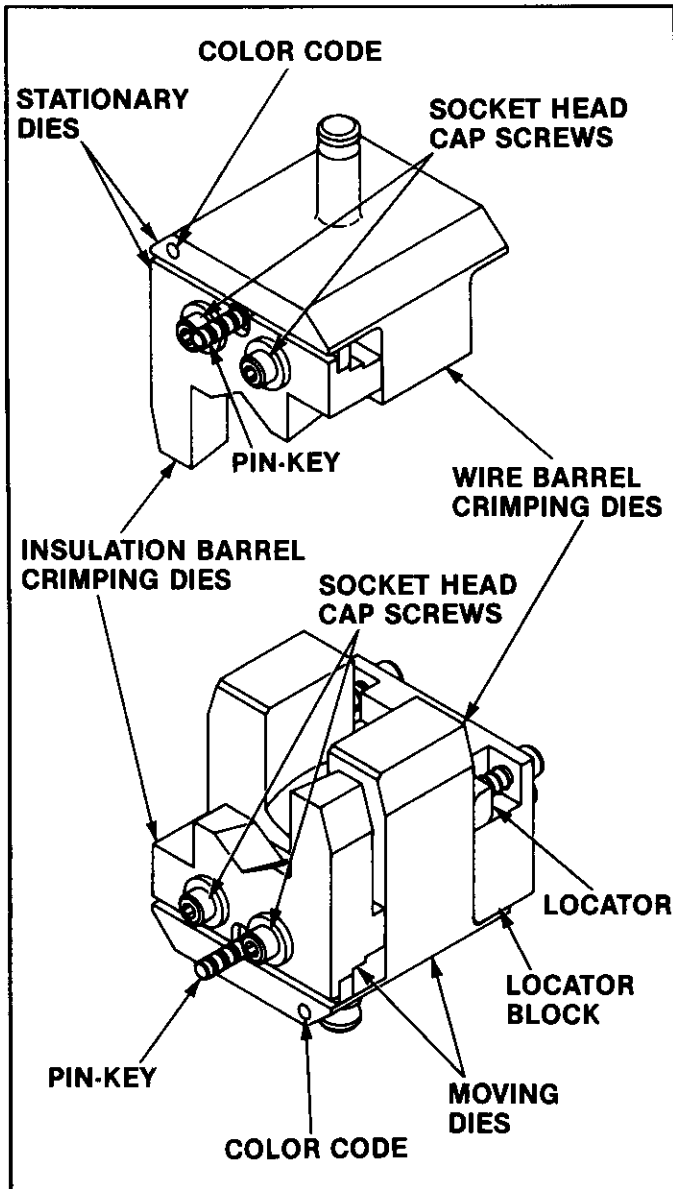

Fig. I-1
Each die assembly consists of two stationary dies, two moving dies, a spring-loaded locator on a locator block, and two pin-keys (for insulation crimp adjustment). See Figure I-1. When mated, the dies form two crimping chambers; one chamber crimps the terminal wire barrel, and the other chamber crimps the terminal insulation barrel. Both crimps are made simultaneously. The locator, mounted on a block on the moving die, aids in positioning the terminal in the crimping dies.
This adjustment is made to the insulation barrel crimping die on the stationary and moving dies after they are installed in the tool head. The dies have three insulation crimp positions. The adjustment is made by moving a pin-key (see Figure I-1). When the pin-key is pushed in all the way, the insulation crimping chamber is in the loose position; when the pin-key is half way out, the insulation crimping chamber is in the medium position; when the pin-key is all the way out, the insulation crimping chamber is in the tight position. Adjust the insulation crimping chamber as follows:
1. Loosen socket head cap screws on stationary die (see Figure I-1) and push pin-key all the way in so that the insulation crimping die is in the loose position.